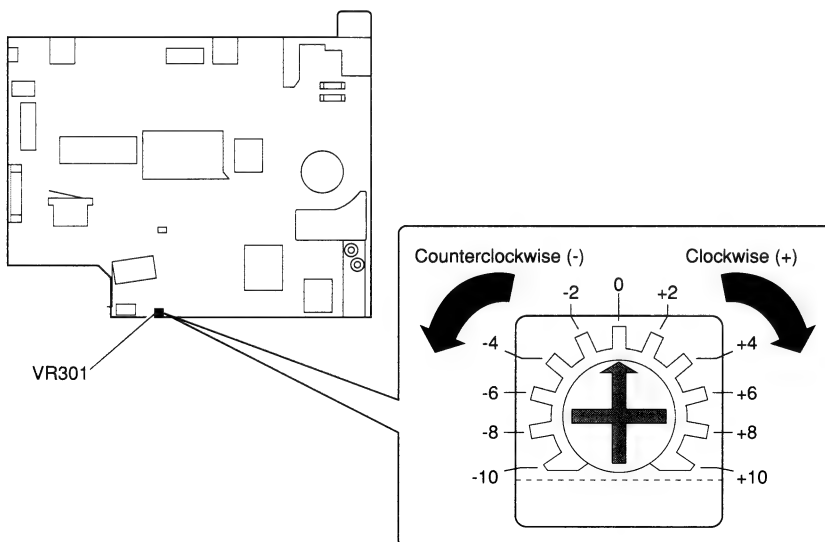

Figure 15 Resetting VR301
1. Using a jeweler's screwdriver, reset VR301 on the controller assembly to "0" (see Figure 15).